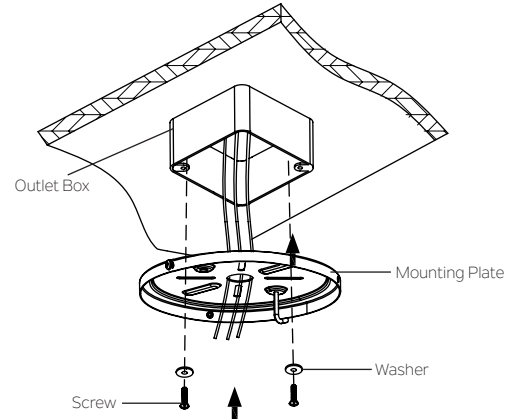

Fig. 4
Step 1. Before attaching fan to outlet box (not included), ensure the outlet box is securely fastened to at least two points to a structural ceiling member (a loose box will cause the fan to wobble). Pass the 120 volt supply wires from the outlet box through the center of the mounting plate. Install mounting plate to outlet box in ceiling using the screws and washers included with the outlet box. (Fig. 4)